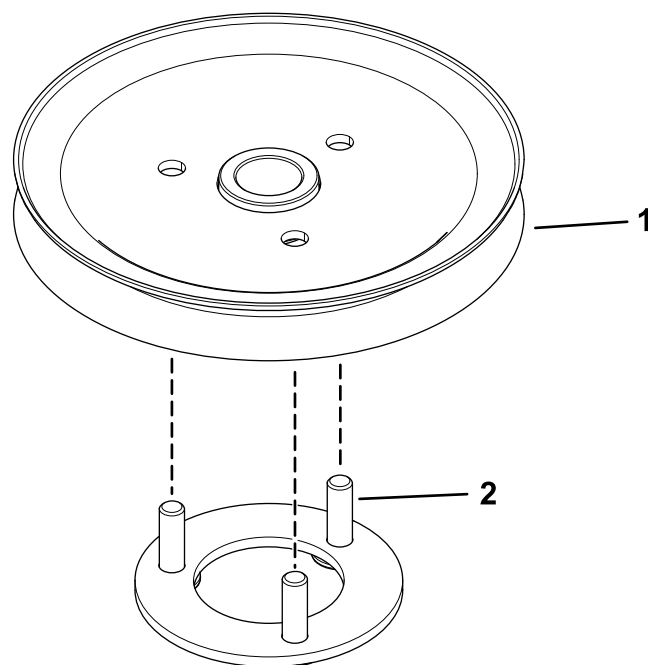

Figure 2
2. Insert the pulley-plate mount studs into the holes in the sheave (Figure 2).